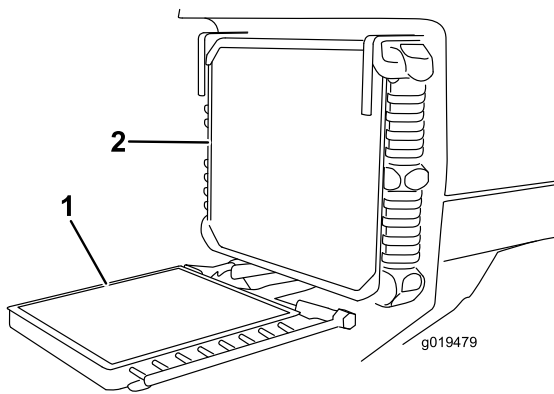

Figure 67
7. Unscrew the knobs and pivot the oil cooler rearward (Figure 67).